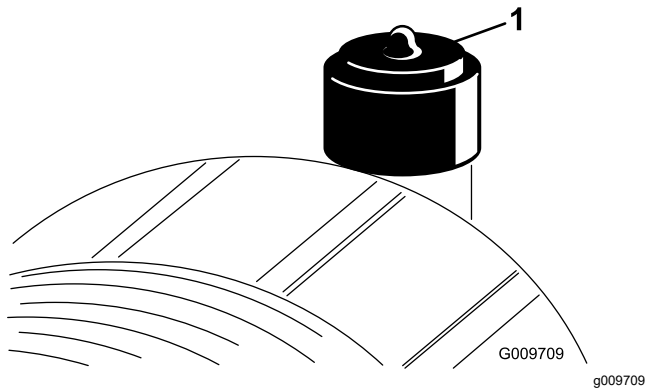

Figure 80
Service the air-cleaner filter only when the service indicator (Figure 80) requires it. Changing the air filter before it is necessary only increases the chance of dirt entering the engine when you remove the filter.
2. Reset the indicator (Figure 80) if it shows red.